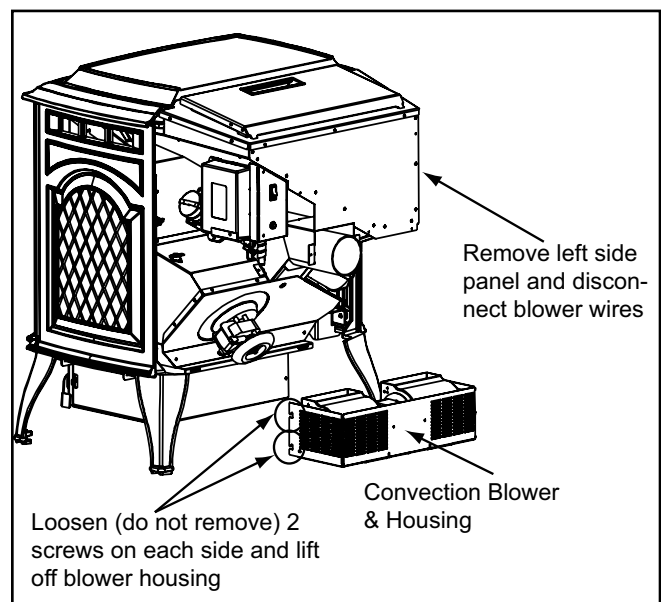

Figure 31.4
- There are 2 screws on each side of the housing. Loosen all 4 screws, but do not remove them. Lift the blower housing up slightly and slide towards you. **Figure 31.4**.